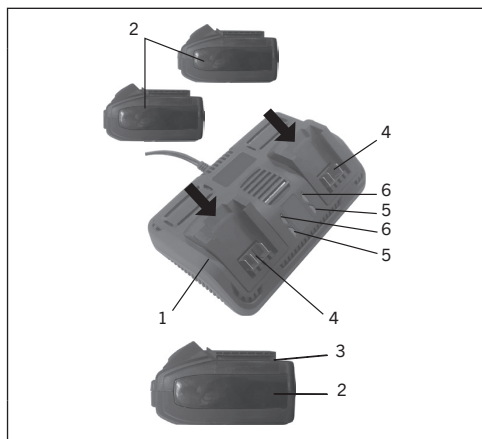

FIG. 1
1. Place the battery charger (1) in a dry location near a 110–120V 60Hz outlet (Fig.1).
NOTE: Make sure the grooves (3) in the sides of the batteries slide over the matching tabs in the charger (Fig.1) until each battery latch "clicks" into place.
a) When the charger is plugged into the wall receptacle and NO battery is on the charger, the green indicator light (5) (Fig.1) will turn ON indicating the charger is "live".
b) When a discharged battery is installed on the charger, the green indicator light will turn OFF and the red indicator light (6) (Fig.1) will FLASH. The flashing red indicator light indicates the battery is being charged.